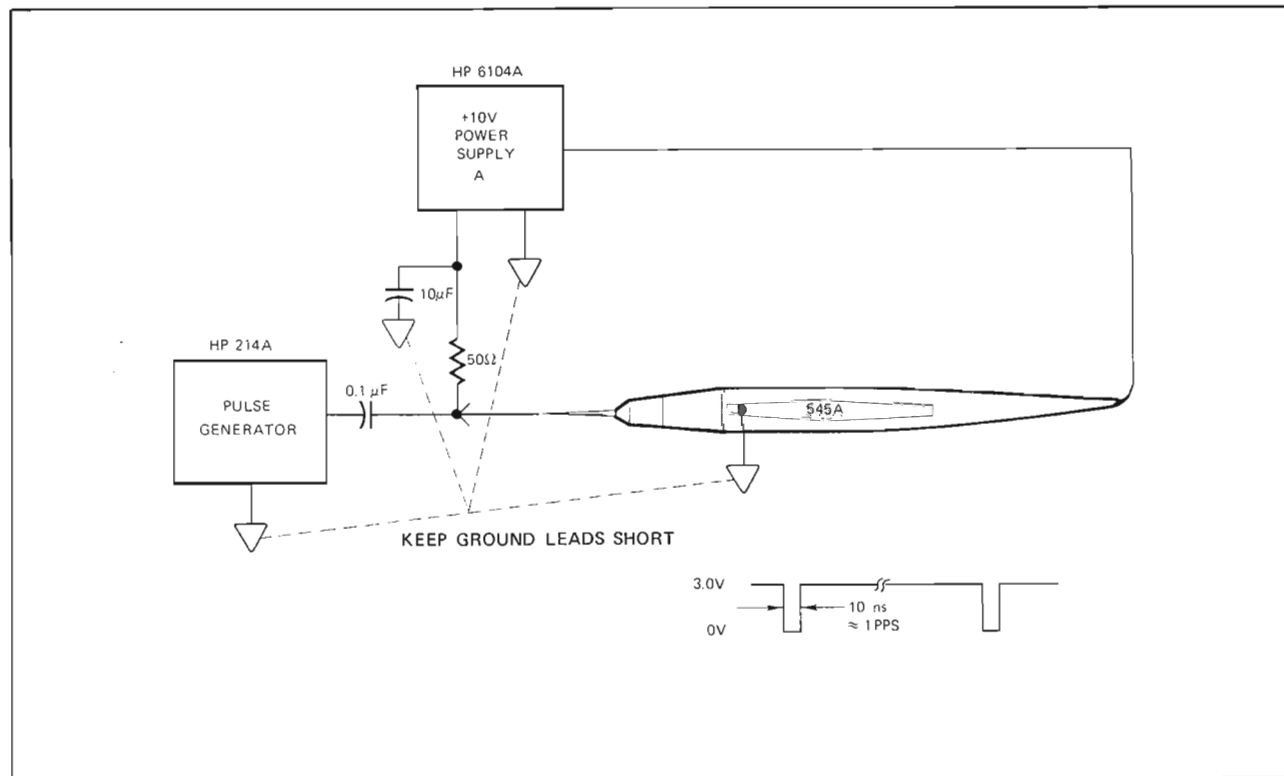

Figure 10. CMOS Negative Pulse Performance Test Setup
- g. Connect test equipment as shown in Figure 10.
- j. Adjust pulse generator to give waveform at probe tip as shown in Figure 10 with a repetition rate of one-pulse-per-second. Probe indicator should flash off once per second.